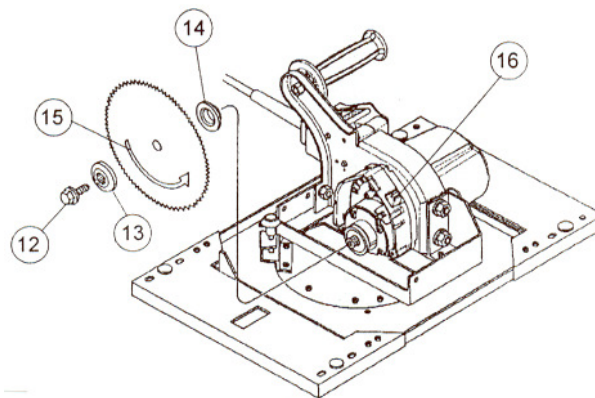

Figure 7: Installing a Saw Blade (C&H Series Shown)
2. Tighten your rip lock on your carriage. While holding the in the spindle lock (16)(located on the bottom side of your motor) **remove the blade bolt** (12)(Figure 7) from the saw motor spindle by turning it **counterclockwise**. Remove the outer blade flange (13), but leave the inner blade flange (14) on the spindle.